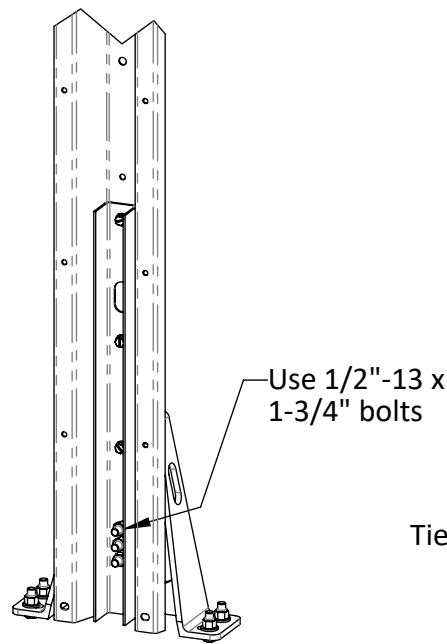

Figure 3
3. Mount bin to load cell according to installation manual, as shown in Figure 3. Do not use bolts in load cell kit. Use provided $\frac{1}{2}$ "-13 x $1\frac{3}{4}$ " long grade 8 bolts, washers, and nuts.